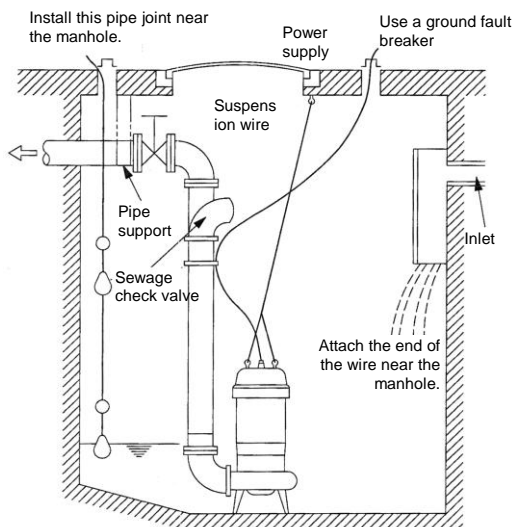

Fig. 2
- 4) If there is a flow in the tank, support the pipe at an adequate position, (refer to Fig. 2).